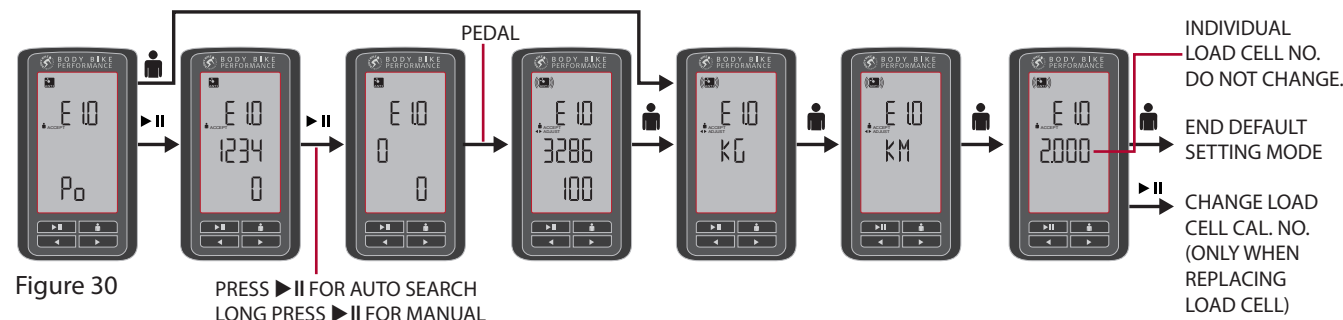

Figure 30
**Tip:** How to enter default settings without taking out the batteries: 1. Turn on console 2. Go to screen 3 by pressing ► 3 times 3. Press ►|| to pause the console 4. Press and hold ■ (do not let go) 5. While holding ■ simultaneously press and hold the other 3 buttons. Keep holding until the console displays the second screen on figure 30. You have now entered default settings.